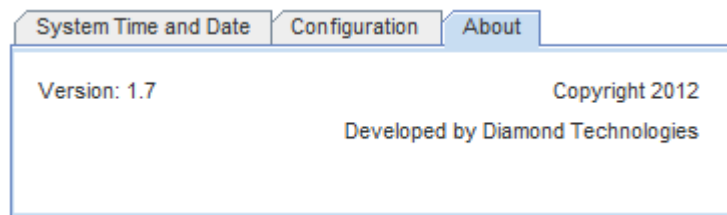

Figure 12 About Window
3. The window shown in Figure 12 will appear.